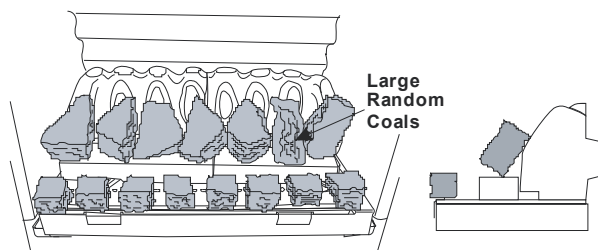

Figure 19
4. Unpack the square coals and insert them centrally into the spikes as shown in **Figure 19**. Then place Large Random coals on the middle matrix such that they are bridging across to the rear matrix.